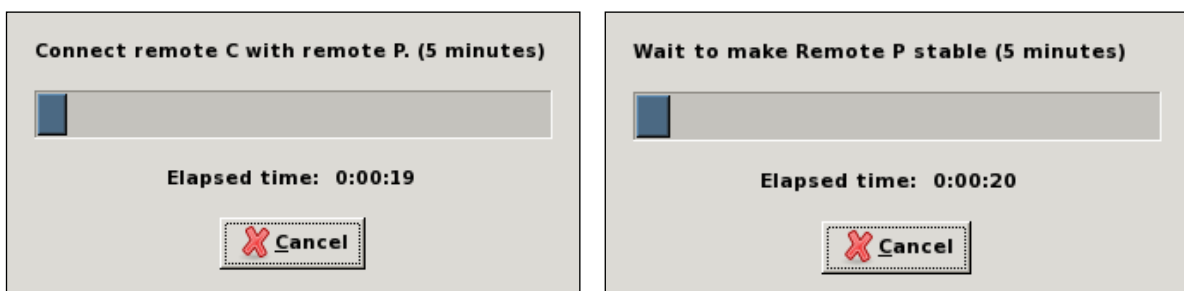

Figure 88 The two Depolarize dialogs
- Follow the instruction on the first dialog (Figure 88)